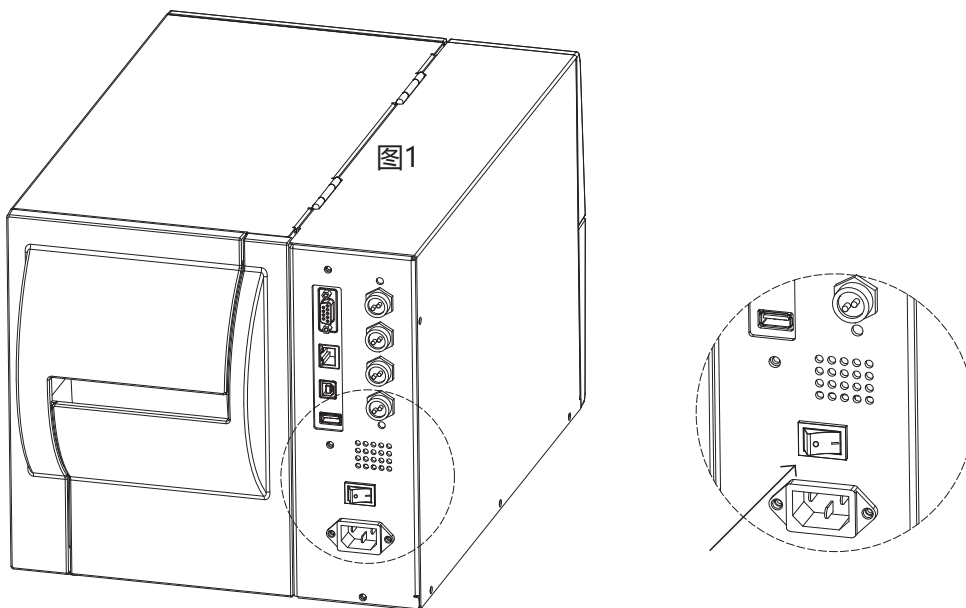

Figure 1
1. As shown in Figure 1, if the printer has been connected to the computer, press the power switch as shown in the figure to turn on the printer.